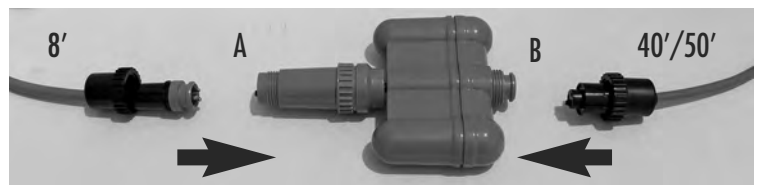

FIGURE S5
- 2) Insert the black plug on the end of the long cable (40' or 50') into the large end of the swivel (B), as shown in Figure S5, ensuring the pins are aligned properly. Press firmly to ensure a solid connection is made.
- 4) Insert the blue plug from the short cable (from cleaner to swivel, 8') into the small end of the swivel (A) as shown in Figure S5, ensuring the gasket is in the swivel connection and the pins are aligned. Press firmly to ensure a solid connection is made.